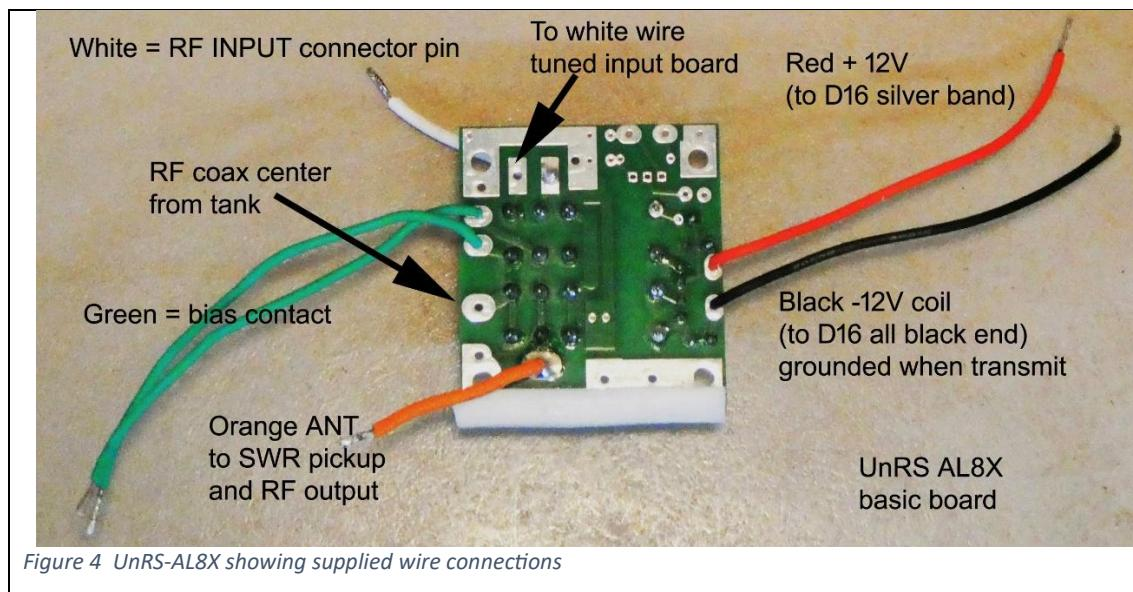

Figure 4 UnRS-AL8X showing supplied wire connections
8.) The new UnRS AL8X board (figure 4) comes with the heavy orange RF output connector/ SWR coupler wire long enough to reach either output point. Verify the correct orange wire attachment point on the main amplifier circuit board by using an ohmmeter continuity test. Keep the orange lead as shipped to you. The installed wires should be perfectly good just as shipped. Longer leads tend to increase the bypass SWR through the amplifier.